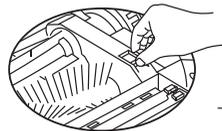

Figure 1
1. Force the locking bar forward and raise the cover by right thumb, and then raise rod of the mid cleaning brush by your left hand. (Refer to Figure 1 and Figure 2)